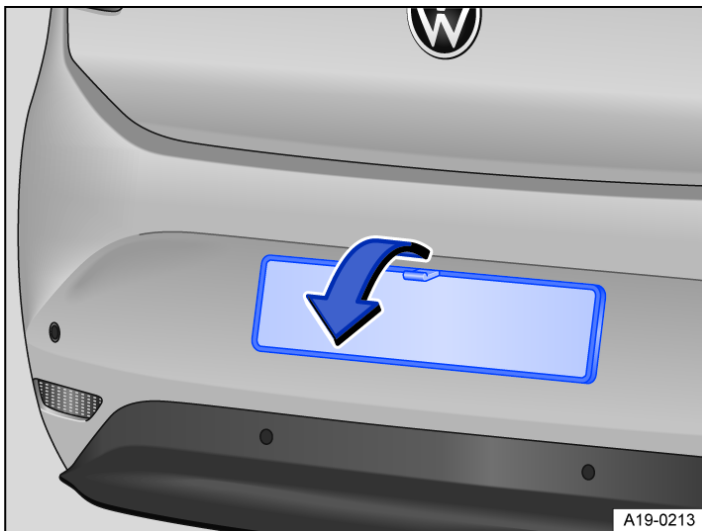

Fig. 1 Fold down the number plate holder.
2. Fold down the number plate holder → Fig. 1.